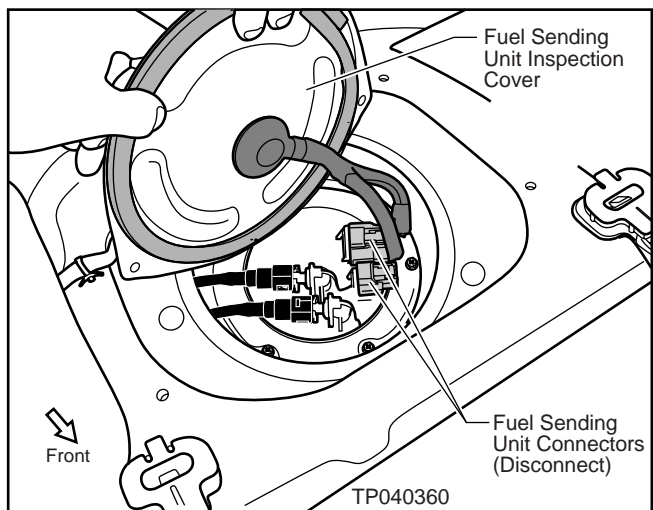

Figure 17
4. Disconnect the Fuel Sending Unit Connectors (see Figure 17).